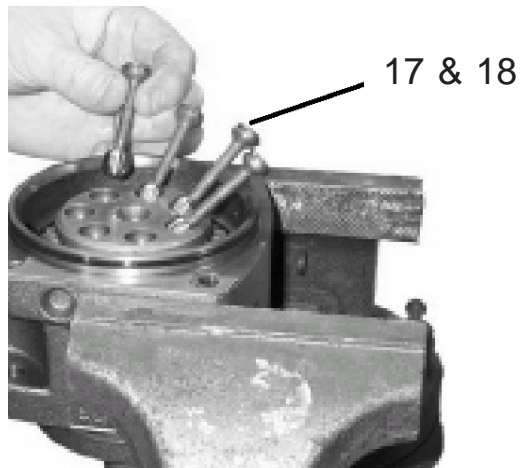

Figure 29
12. Install Pistons & Piston Rings. Coat the pistons (item 17) with hydraulic oil, make certain all 7 pistons have 3 rings (item 18) each on them. (See Figure 29). Piston will lay over to the side as shown in figure 29 but will slip down into the holes as shown in Figure 30.